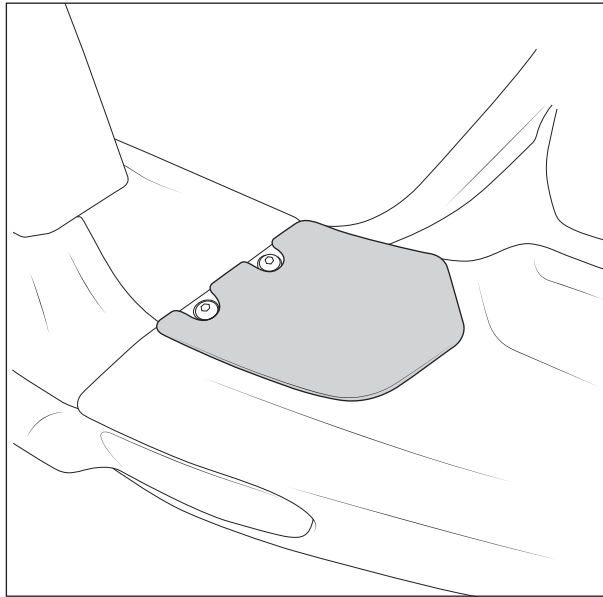

Figure 37
3. Make sure top surface of bumper is clean and dry and install provided adhesive-backed foam step pads as shown (if desired). Be sure to hold in place with strong pressure for at least 30 seconds (fig. 37)